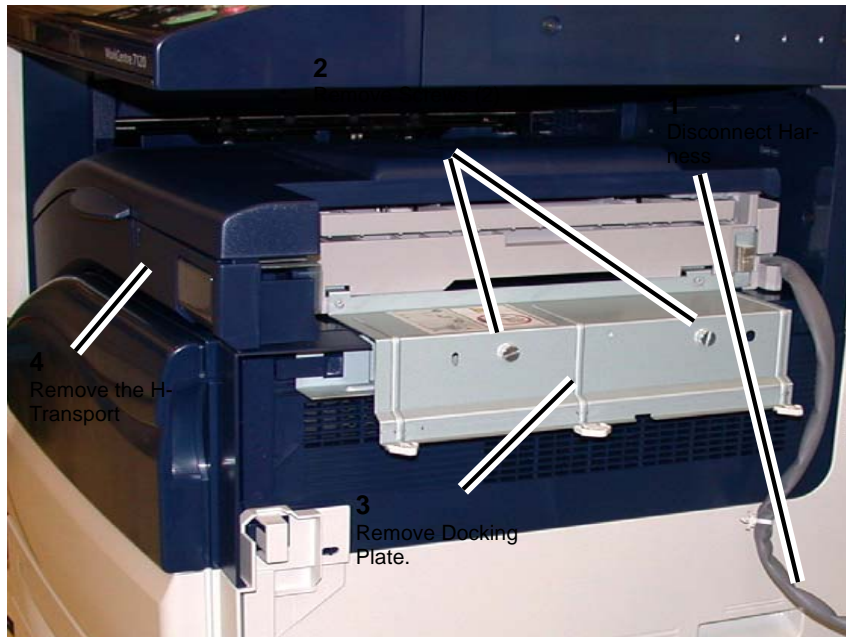

Figure 1 Removing the Docking Bracket
3. Move the H-Transport Assembly (Figure 1).